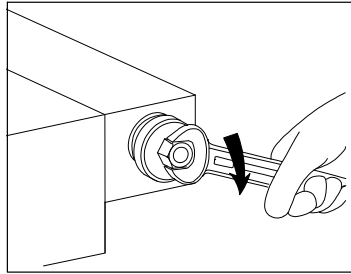

Fig. 5-9
3. Screw in the filter cartridge with an open-end wrench or ring wrench. Tighten only hand-tight; do not use excessive force (Fig. 5-9).